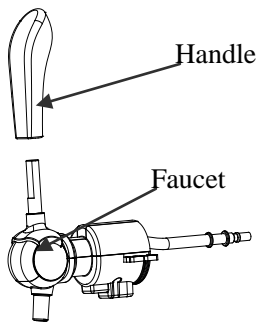

Figure 6
2. Install the tap handle connect the tap, make sure both end fit together perfectly. (Show as Figure 6)